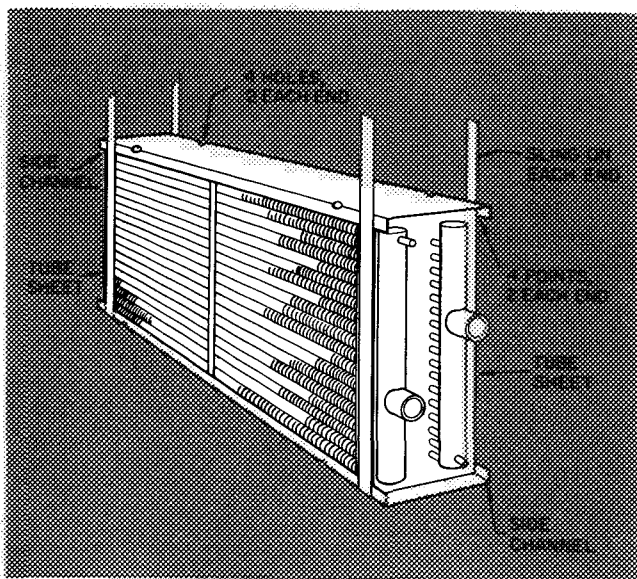

Fig. 27 – Handling Coil with Face Vertical
5. Slide coil out of unit. *Handle cooling coils with coil face vertical. Handle heating coils with coil face vertical or horizontal. Lift coils from four suspension points at corners as close to tube sheets as possible per Fig. 27.*